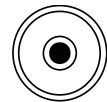

Fig.9
- (1) Turn footscrews to centre the bubble.
- (2) Turn the instrument 180°, the bubble shall be at centre. (Fig.9) otherwise it shall be adjusted. The method is as following.